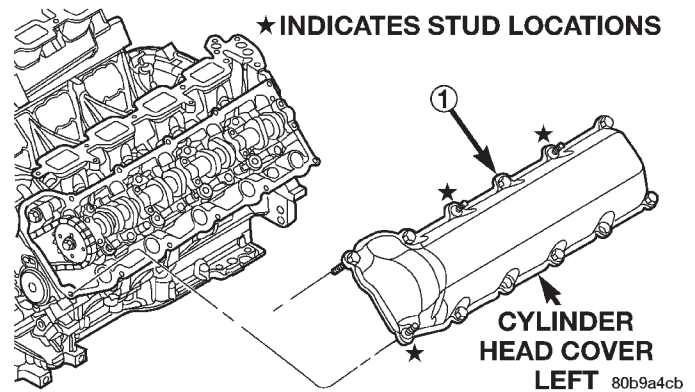

Fig. 39 Cylinder Head Cover—Left
(1) Clean cylinder head cover and both sealing surfaces. Inspect and replace gasket as necessary.
(2) Install cylinder head cover and hand start all fasteners. Verify that all studs are in the correct location shown in (Fig. 39).
(3) Tighten cylinder head cover bolts and double ended studs to 12 N-m (105 in. lbs.).
(4) Connect injector electrical connectors and injector harness retaining clips.
(5) Install air cleaner assembly and throttle body resonator.
(6) Connect negative cable to battery.